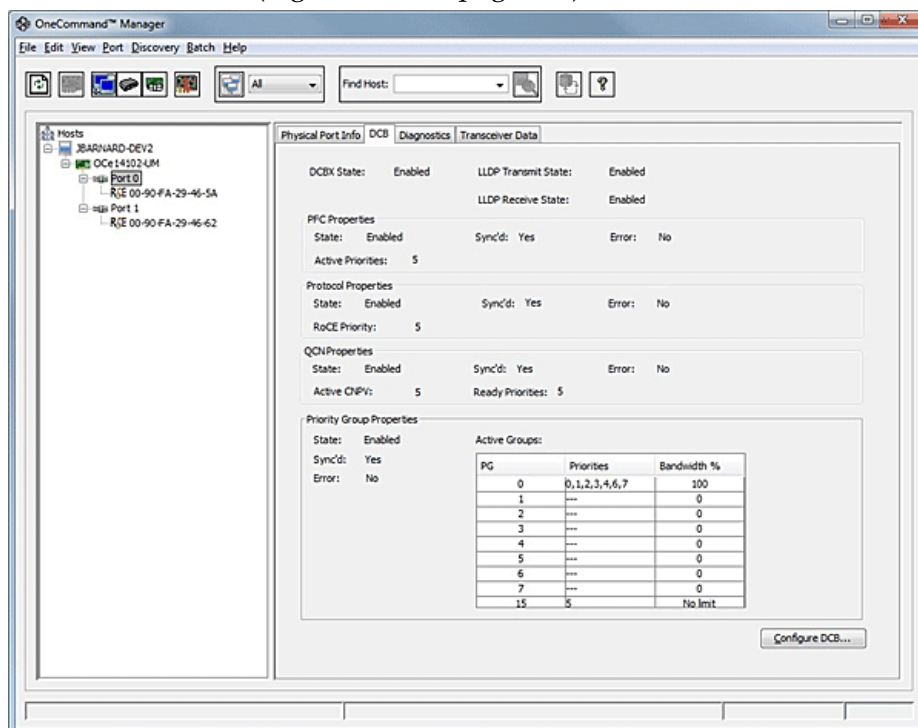

Figure 10-9 DCB Tab for RoCE Adapter Ports
The DCB tab (Figure 10-9 on page 226) displays parameters for RoCE adapter ports.
2. Select the **DCB** tab (Figure 10-9 on page 226).